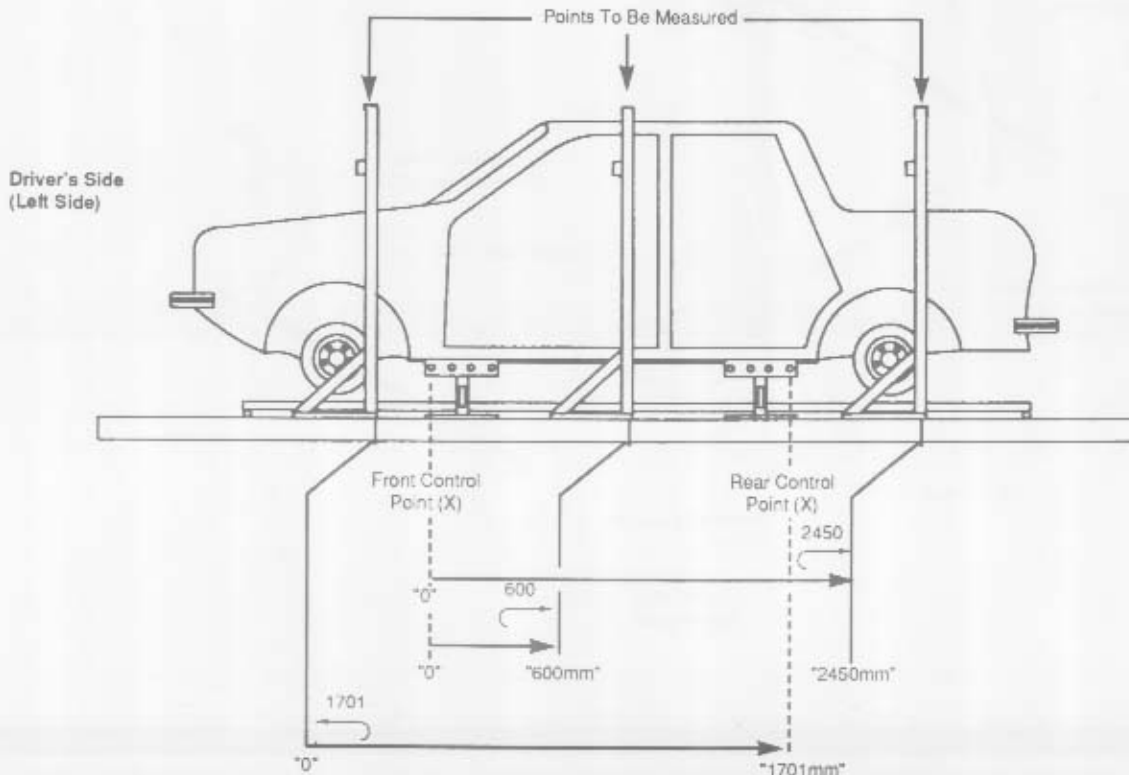

Figure 3
- B. The front secondary ladder setting, see example at right:  corresponds with secondary ladder setting in underhood view on lower body specification sheet for same vehicle. Length measurements for each secondary ladder setting **MUST BE** done on the driver's (left side). The direction of the hook shaped arrow  designates control point (X) to be used for 'zero' reference. If arrow points to front of vehicle, , rear control point (X) is to be used as 'zero'. If arrow points to rear of vehicle , front control point (X) is to be used as 'zero'. (See Figure 3.)